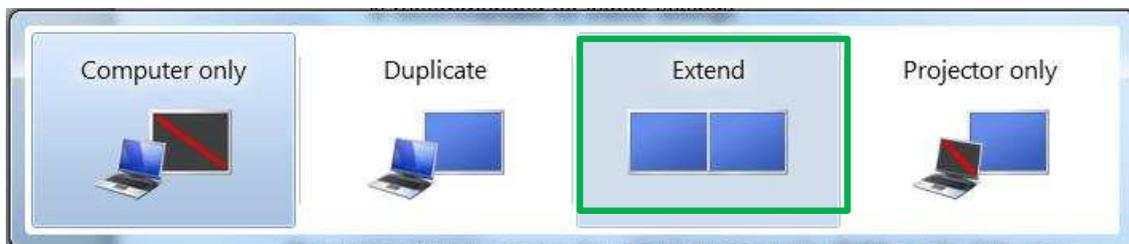

Figure 2-6. PC Video Output Mode Configuration
- Press "Windows + P" key combination, then select "Extend" as shown in Figure 2-6.